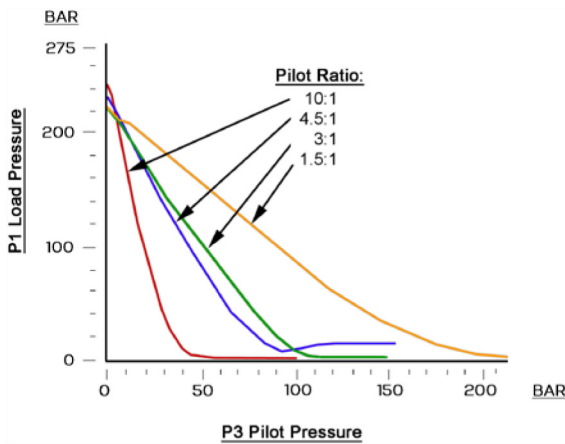

Figure 5. Load Pressure -v- Pilot Pressure -v- Pilot Ratio
- P1 and P3 are measured and plotted per Figure 5 for various Pilot Ratios.
Note from Figure 5 that: